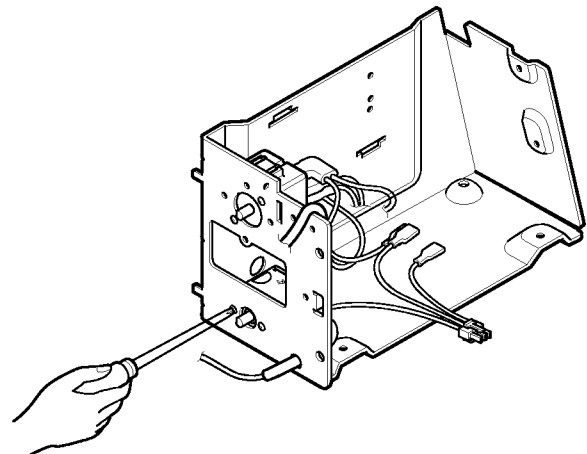

Figure 16
8. Re-install the components by referring to the above removal procedure. (See figure 16)